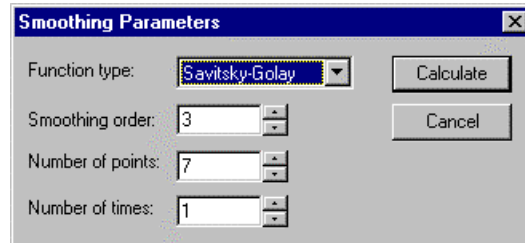

Fig. 6-11
Select the Smooth (S) command from the Data (D) menu or click the  button. The window in Fig. 6-11 will open.